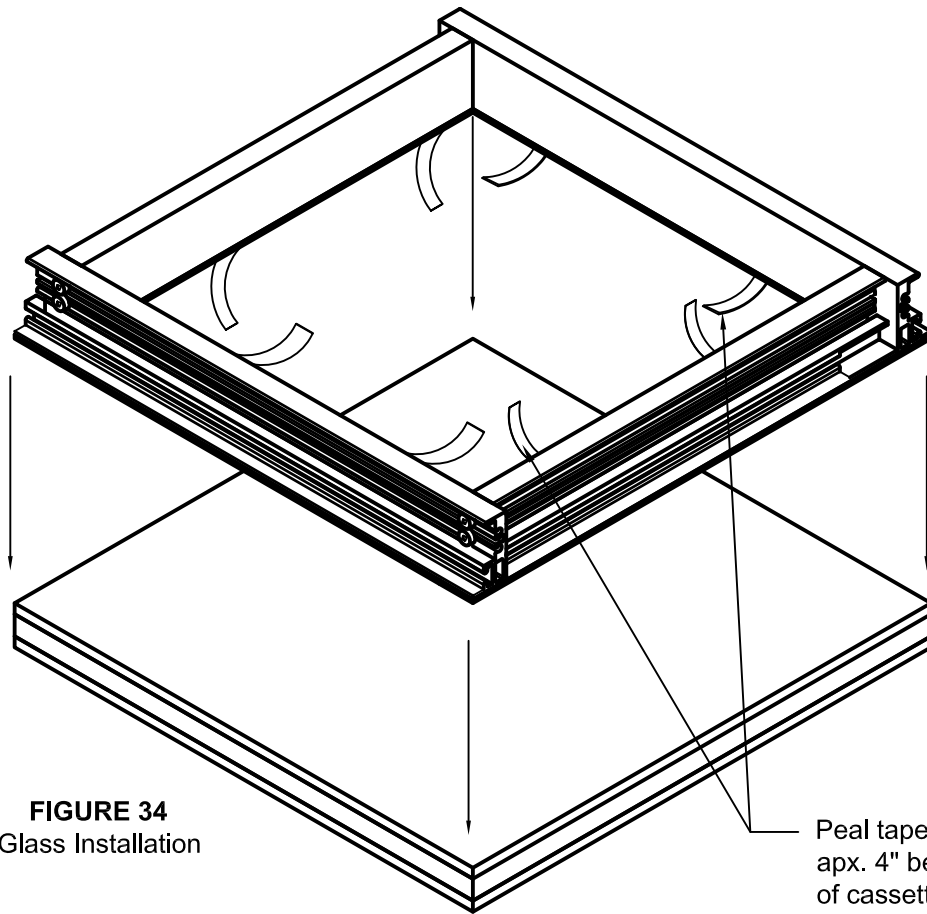

FIGURE 34
- 3.9 Remove approximately 4" of protective liner at each corner from the cassette unit. Take care not to touch or contaminate the exposed adhesive. SEE FIGURE 34, page 36